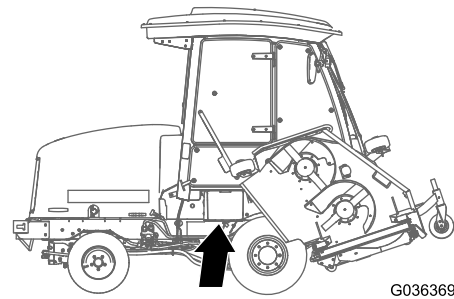

Figure 95
1. Open the battery cover on the side of the shroud (Figure 95).
Note: Press down on the flat surface above the battery cover to ease the removal of the cover (Figure 95).